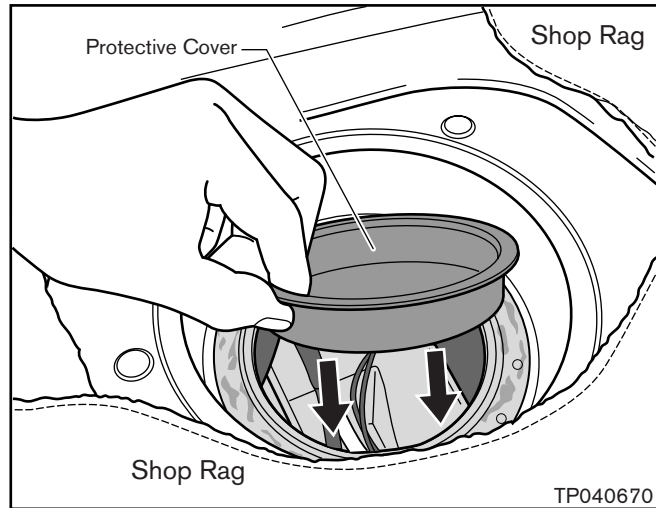

Figure 40
- The O-Ring groove has NO or light rust (no scaling) and can be cleaned with a light abrasive pad (such as Scotch Brite Pad 3M #051131-07447) or a copper/bronze bristle brush. See Figures 40 & 41.
6. Insert the Protective Cover (provided in Kit A or Kit B) in the Fuel Tank opening (see Figure 40).